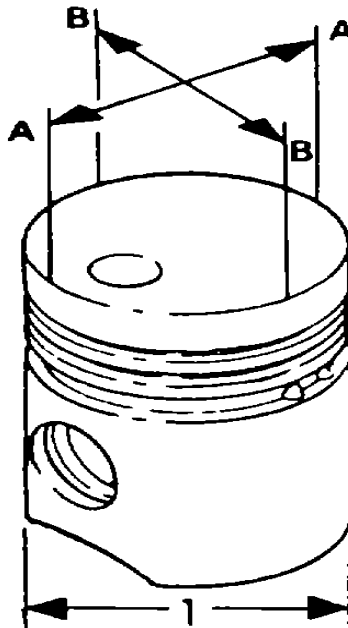

Figure 5-28. Measuring Piston Circumference.
- (3) Refer to figure 5-28 and measure piston diameter (1) along axis A and B. A normal or new piston diameter should be 2.8724 inches (72.96 mm). If piston is worn, replace piston.